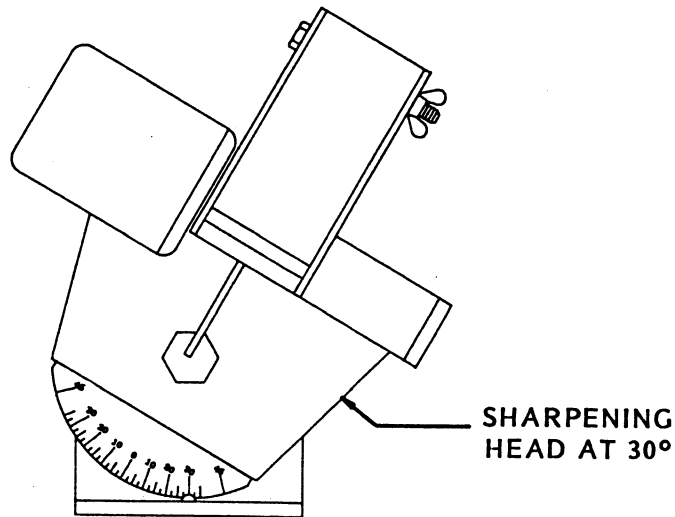

FIGURE 17
11. Set TOP PLATE CUTTING ANGLE by setting the scale on the back of the throat to desired angle. (See Figure 17.) (Again we will use 30° for an example.) Follow manufacturer's specifications for recommended angles. This represents degrees this angle tilts past 90° .